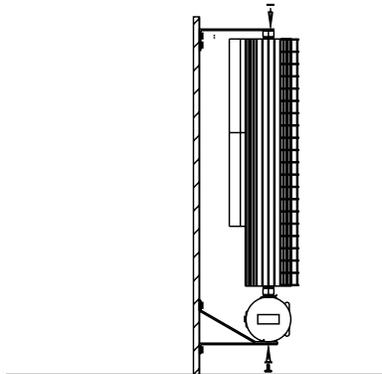

FIGURE 5 - ATTACH HEATER TO MOUNTING BRACKETS
Step 3: Secure bottom of heater to wall mounting brackets with supplied 1/4"-20 hex bolts and lock washers (Figure 5).
TO ENSURE SAFE OPERATION, HEATER MUST BE INSTALLED, AS SHOWN IN FIGURES 5 & 8. INSTALLATION WITH FINS IN THE INCORRECT ORIENTATION MAY RESULT IN AN UNSAFE CONDITION (REFER TO TABLE 1).